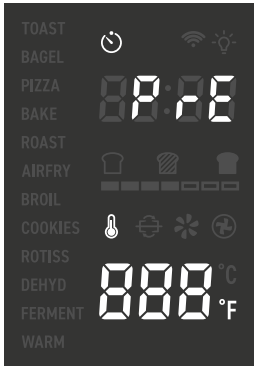

Figure 2.1
- 1. When you start the cooking function by pressing **START/CANCEL**, preheating will start automatically. The **START/CANCEL** button will light up, and the display will show "PrE". [Figure 2.1]